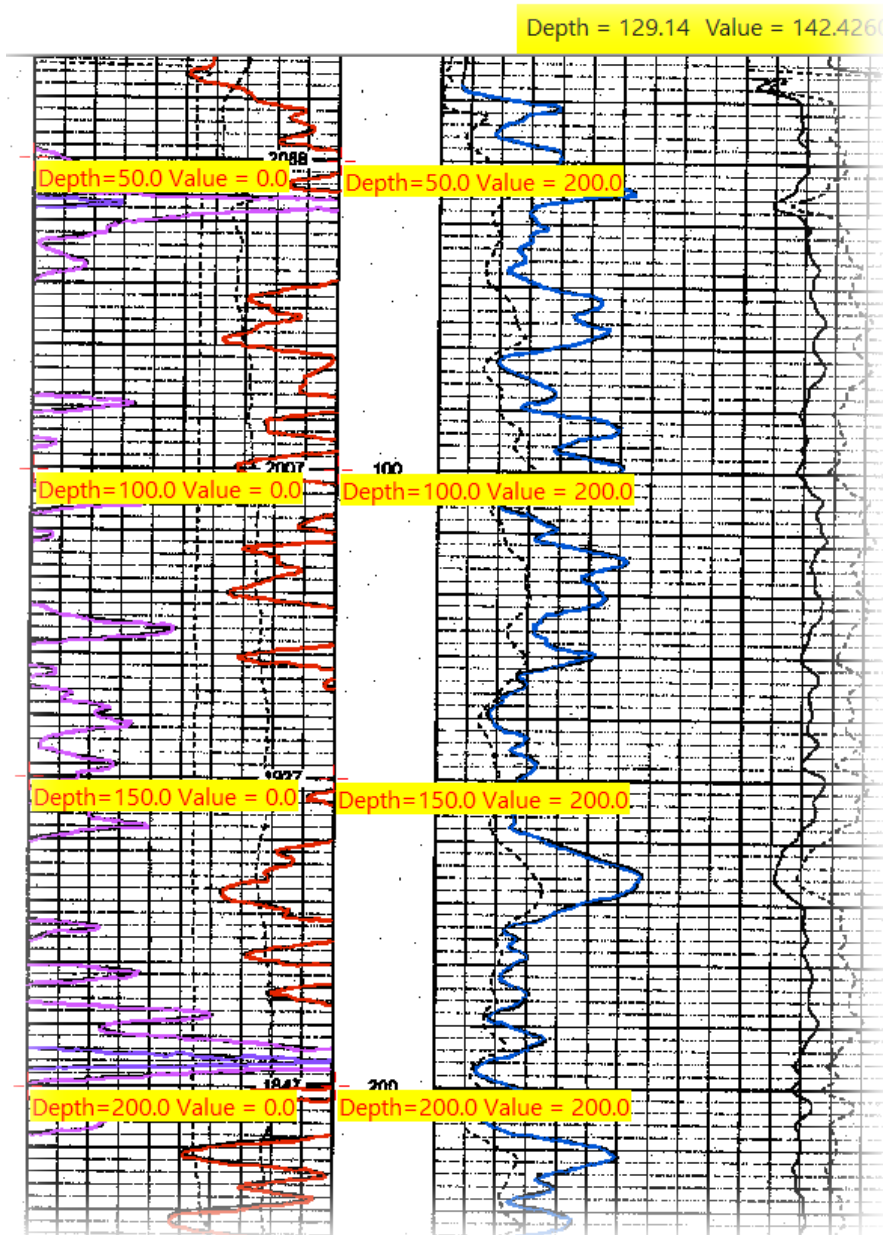

Figure 7
- If the log is long and/or distorted and/or the vertical scale varies, the log should be calibrated using more than four points in which case the **Interval** option should be checked. The value specified for the calibration interval will determine the number of calibration points that the program will prompt for (Figure 7).